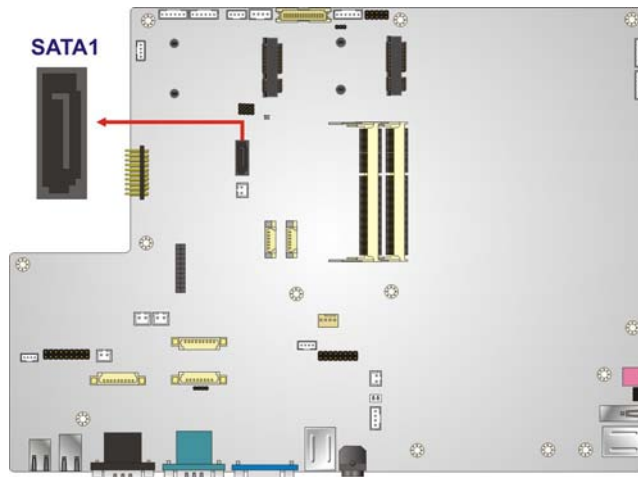

Figure 5-28: SATA 3Gb/s Drive Connector Location
- CN Location: See **Figure 5-28**